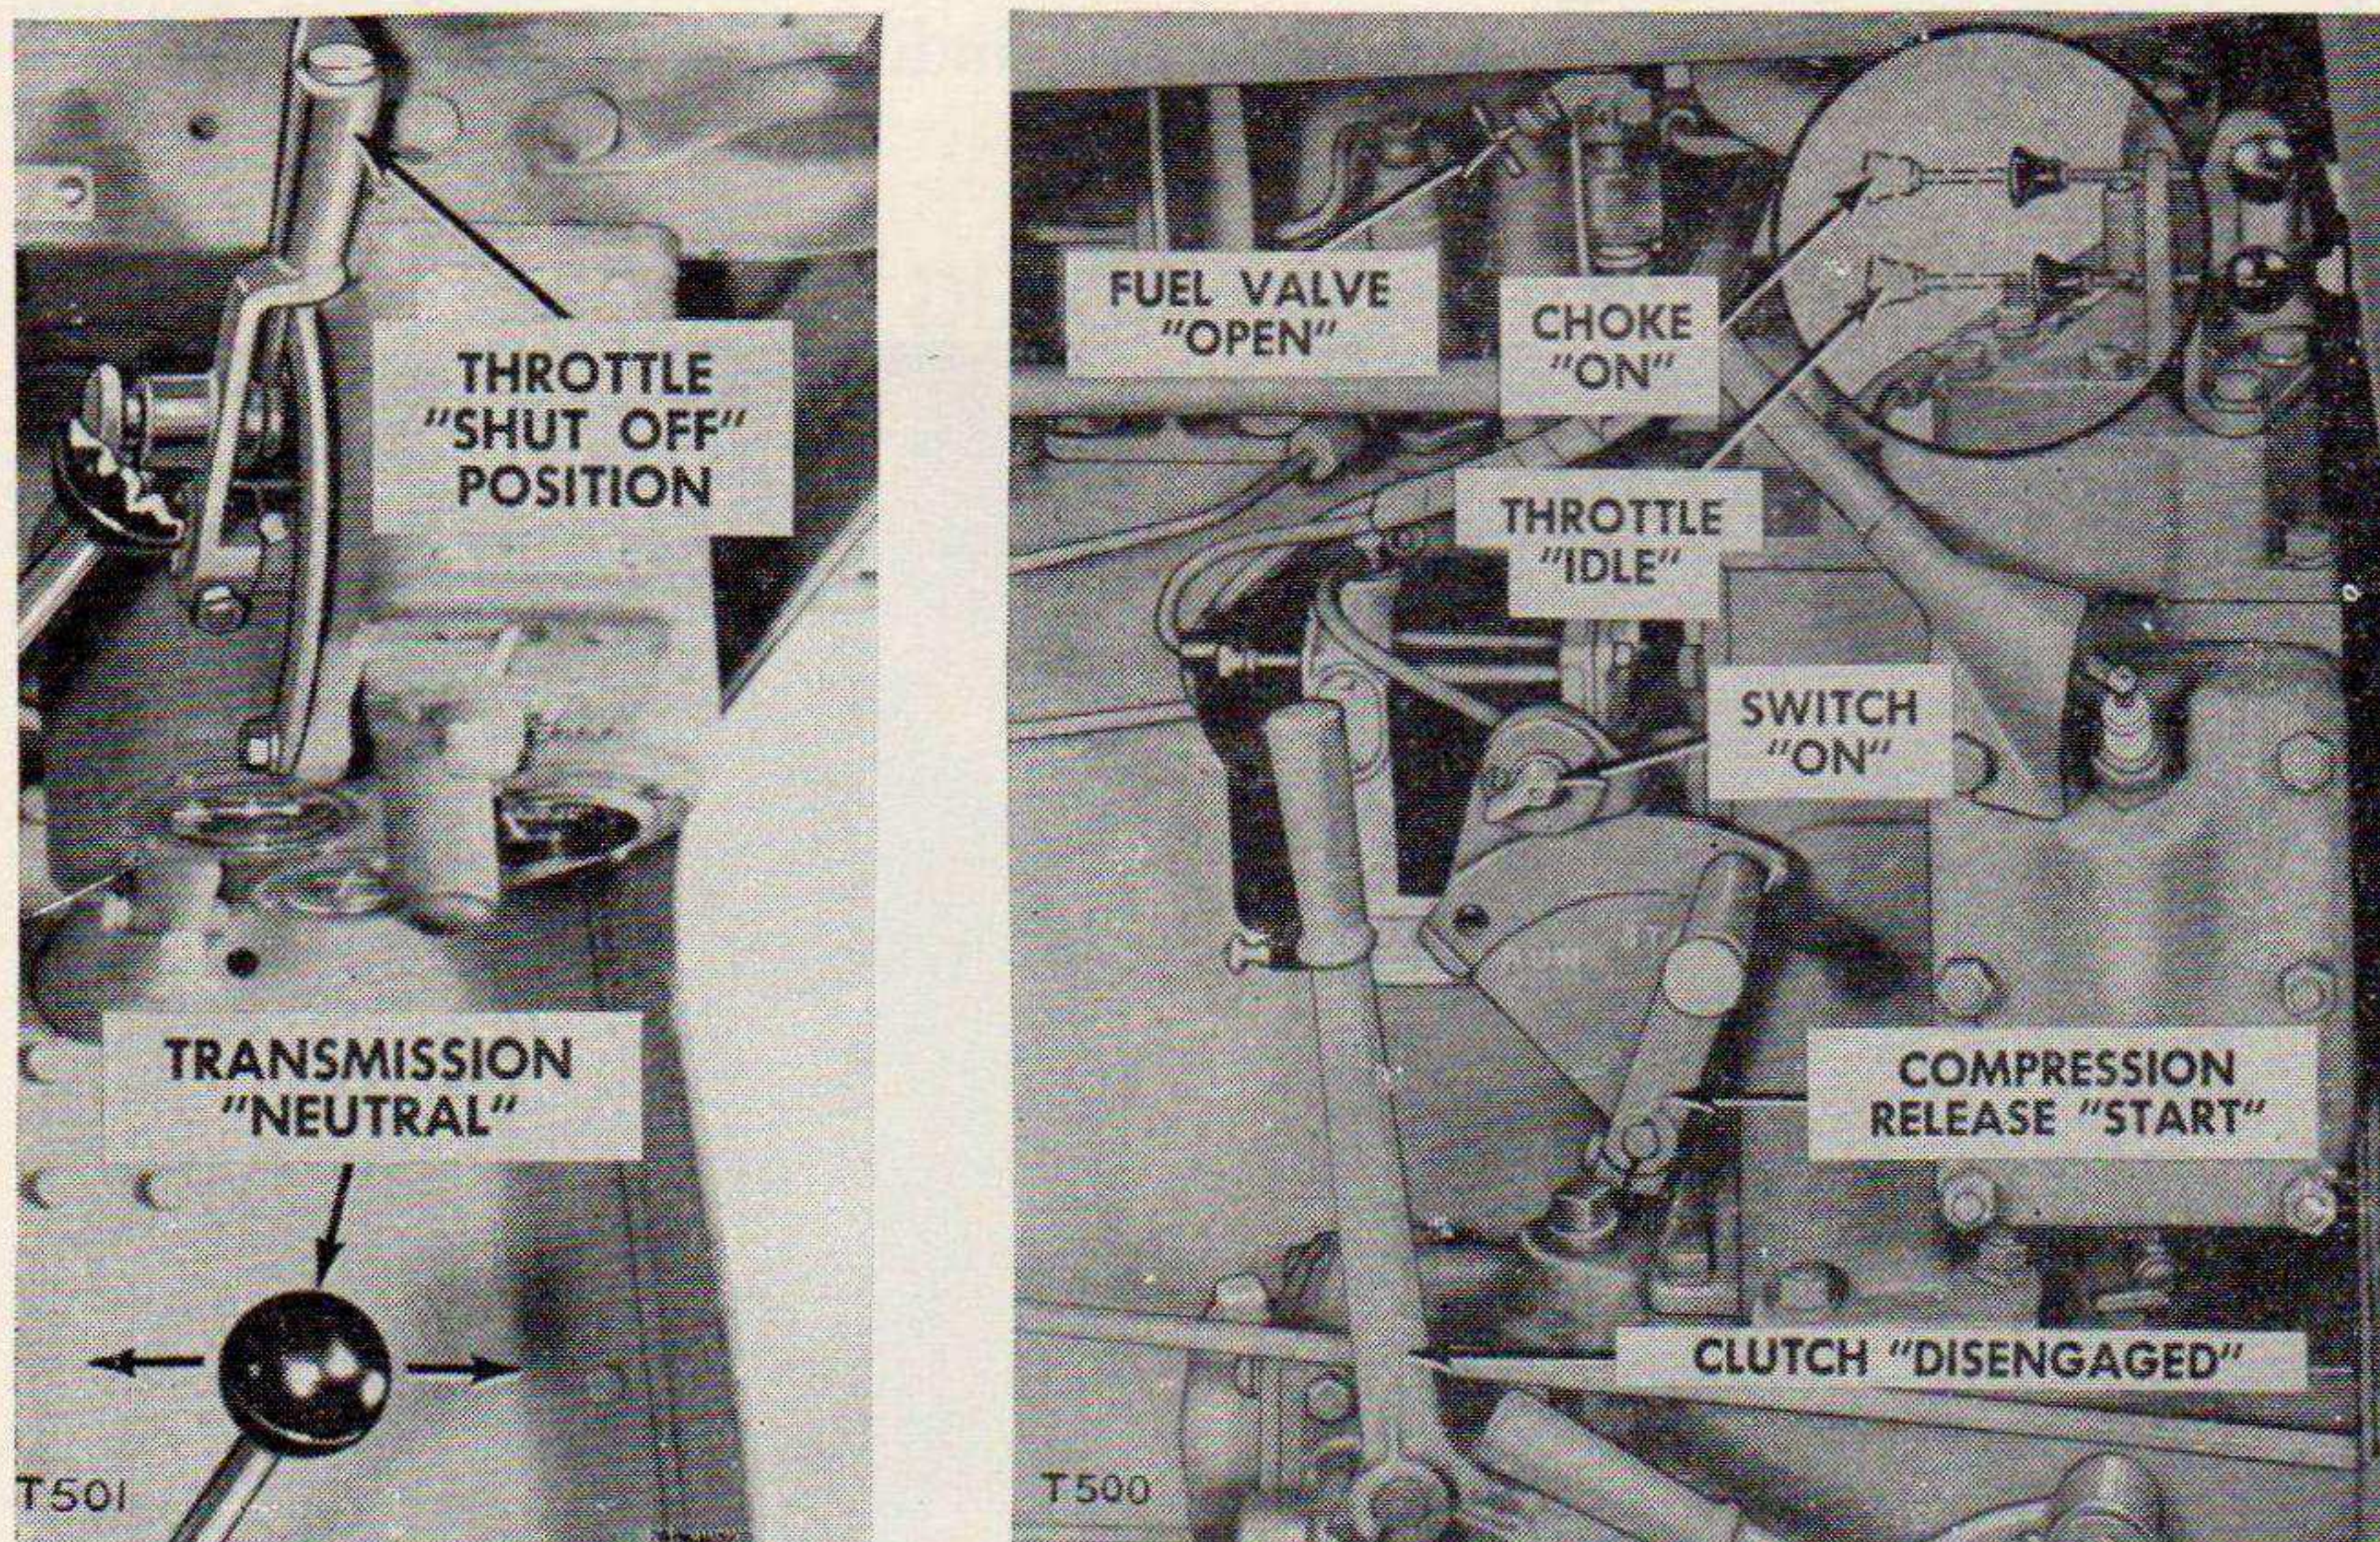

Figure 18. Controls in start position.
b. PREPARATION FOR STARTING. (See fig. 18.)
c. STARTING THE STARTING ENGINE. (See fig. 18.)